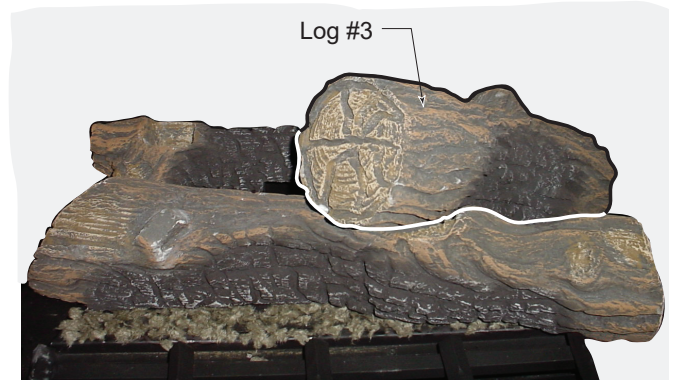

Figure 6.6 - Log #3 Placement
4. Place log #3 at an angle over log #2 toward the back by matching the rectangular notch on the bottom of this log with the rectangular protrusion on log #2. Set the notch located on the bottom of this log toward the back over the metal bracket located to the right side of the burner. Figure 6.6.